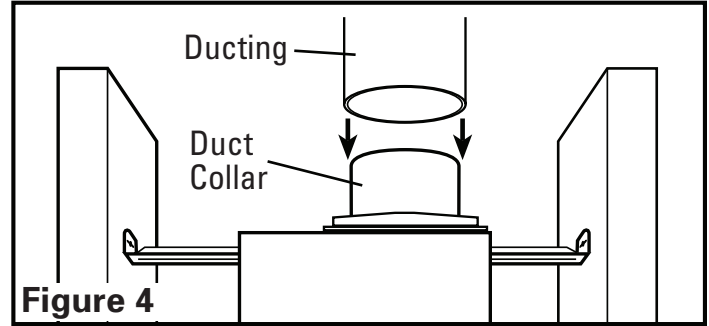

Figure 4
1. Connect the ducting to the fan's duct collar (Figure 4). Secure in place using tape or screw clamp. Always duct the fan to the outside through a wall or roof cap.